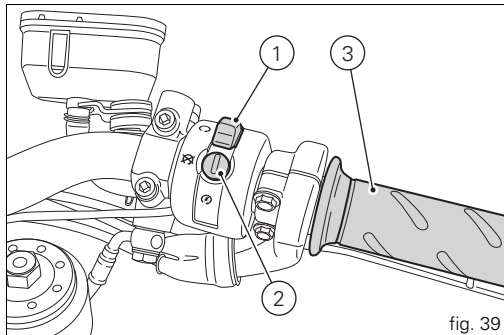
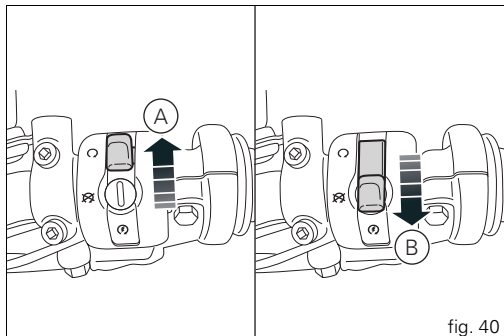

fig. 39
fig. 40
- 1) if the code is recognised, the immobilizer enables engine ignition. Press the START button (2, fig. 40), to start the engine;
RH switch (fig. 39 and fig. 40)
position "  " (RUN) = run (A, fig. 40);
position "  " (OFF) = STOP (B, fig. 40).
This switch is mainly intended for use in emergency cases when you need to stop the engine quickly. After stopping the engine, return the switch to the "  " position (A, fig. 40) to enable starting.
Throttle twistgrip (fig. 39)
The twistgrip (3, fig. 39) on the right handlebar opens the throttles. When released, it will spring back to the initial position (idling speed).